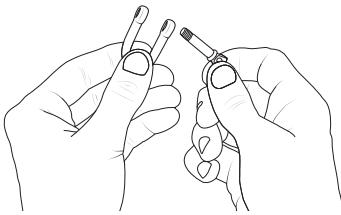

Fig. 1
2. Connect the Tool Shackle to the tool. Unscrew and remove the crossbar [fig. 1].
2. Conecte el grillete a la herramienta. Desenrosque y quite la barra [fig. 1].